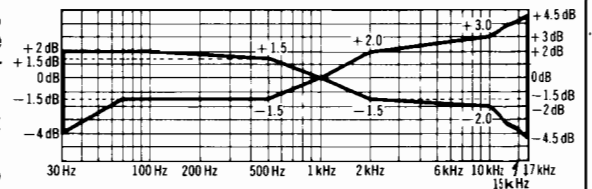

Fig. 15
8. Change test tape to CrO₂ reference blank test tape (QZZCRX), and record 1kHz, 50Hz, 100Hz, 200Hz, 500Hz, 4kHz, 8kHz, 10kHz, 15kHz and 17kHz signals. Then, playback the signals and check if the curve is within the limits shown in the overall frequency response chart for CrO₂ tapes (fig. 15).
10. Place UNIT into metal tape mode and change test tape to metal reference blank test tape (QZZCRZ), and record 1kHz, 50Hz, 100Hz, 200Hz, 500Hz, 4kHz, 8kHz, 10kHz, 12.5kHz, 15kHz and 17kHz signals. Then, playback the signals and check if the curve is within the limits shown in the overall frequency response chart for metal tapes (fig. 15).